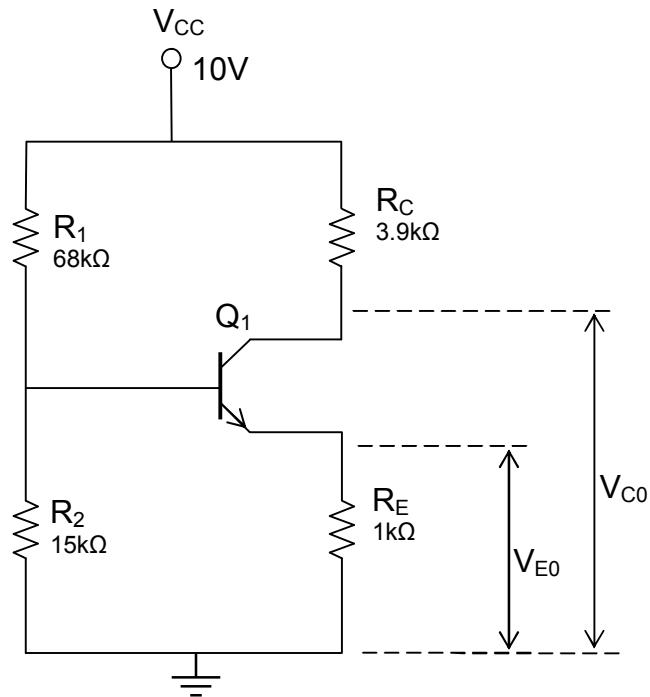

Figure 7.2: Common-emitter circuit for Q-point measurement.
2. Set up the circuit as shown in Figure 7.2 with $V_{CC} = 10.0$ V. Use the DMM to measure V_{C0} and V_{E0} . You can calculate I_E ($\approx I_C$) using V_{E0} and R_E . Then, obtain the Q-point (V_{CE} and I_C). Draw your load line and Q-point on your transistor characteristic.
Figure 7.3: The common emitter circuit of Figure 7.2 with added capacitors and an input signal V_s provided by the function generator and the voltage divider, R_{S1} and R_{S2} .